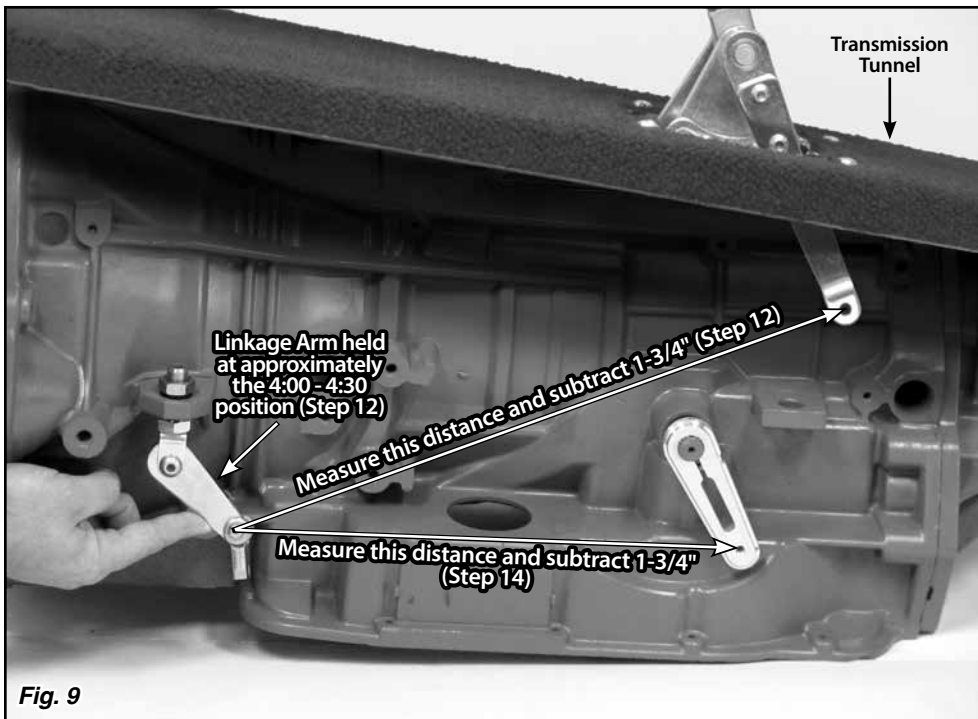

Fig. 9
Verify that both the shifter lever and the transmission are in the Park position. Hold the linkage arm at approximately the 4:00 - 4:30 position. Measure center-to-center from the 1/4"-28 button head bolt in the bottom of the linkage arm on the transmission to the 1/4" hole in the quad arm on the shifter assembly. Subtract 1-3/4". **Fig. 9** This is the length you will cut the long threaded rod to. Use a hacksaw or cutoff wheel to shorten the long threaded rod. Then, de-burr the cut end of the rod.
Step 14: The short threaded rod will connect the linkage arm to the billet trans arm. Check to make sure that nothing will interfere with the travel of the short threaded rod. **If there is any interference, the short threaded rod can be bent slightly as needed.** Measure center-to-center from the button head bolt in the bottom of the linkage arm to the center of the 1/4" hole in the bottom of the billet trans arm. Subtract 1-3/4". **Fig. 9** This is the length you will cut the short threaded rod to. Use a hacksaw or cutoff wheel to shorten the threaded rod, and then, de-burr the cut end of the threaded rod.